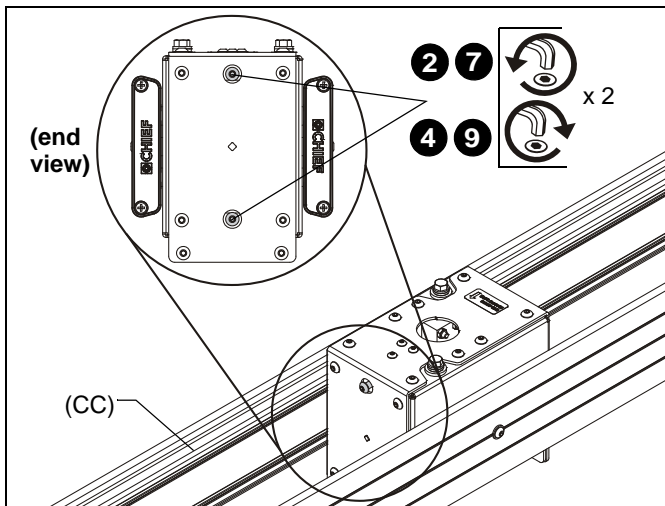

Figure 1
2. Loosen two 5/16 x 3-1/2" button head cap screws on end of housing until they no longer extend into the extension column area inside housing, but do NOT remove the screws completely. (See Figure 1)
4. Tighten two button head screws loosened in Step 2. (See Figure 1)
7. Loosen two button head screws tightened in Step 4, and slide ceiling mount down extension column until it rests on the bottom coupling (B). (See Figure 1)
9. Re tighten two button head screws against column. (See Figure 1)